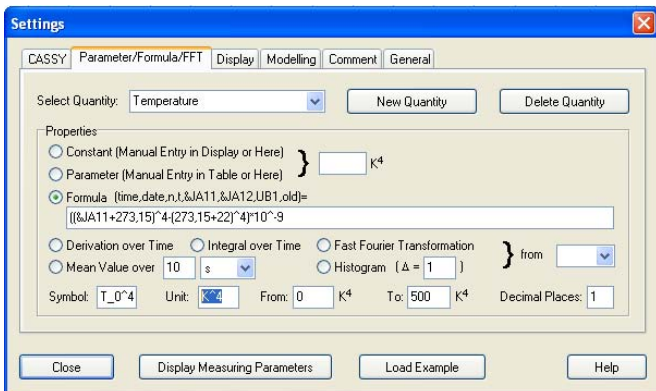

Fig. 3: Defining the formula  $T^4 - T_0^4$  by using the new quantity tool (function key F5).
- If the window "Settings" is not open press the button or function key F5 and select the tab "Parameter/Formula/FFT" (Fig. 3).